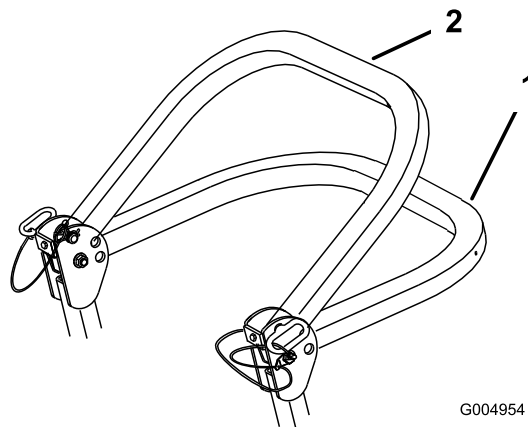

Figure 8
- Note:** There are 2 down positions; refer to Figure 8.